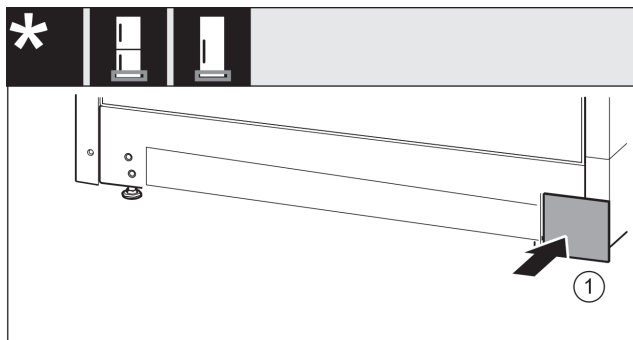

Fig. 20
- Re-attach the cover Fig. 20 (1) on the other side.